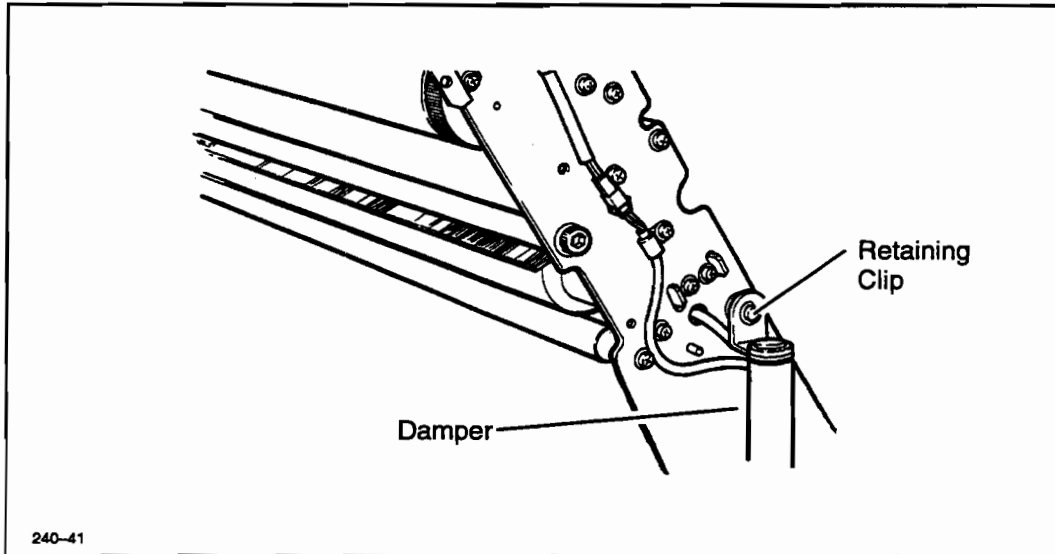

Figure 6-73. Upper-Carriage Damper Removal
5. Using needle-nose pliers, remove the retaining clip from the damper pivot point on the upper carriage assembly. See Figure 6-73.